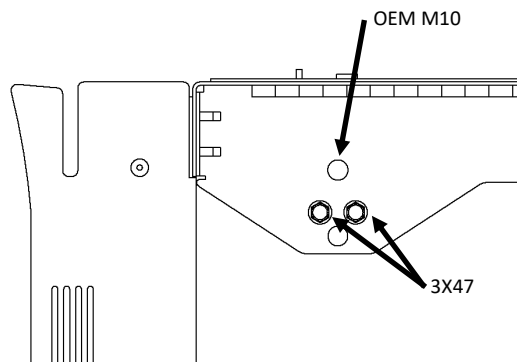

Figure 4b
3. Reinstall OEM M10 bolts securing bottom of front panel to floor on both driver and passenger side using M10 hex drive. Install Self Drilling Hex Head screws with #14 socket on driver side as shown in Figure 4b. Repeat for passenger side.